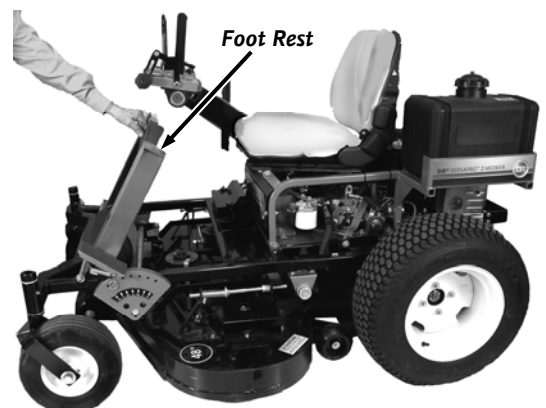

Figure 17
- Grasp the Handle at the rear of the Foot Rest (Figure 17) and lift the Foot Rest to access the top of the Deck.
3. Grasp the Handle at the rear of the Foot Rest (**Figure 17 on page 19**) and lift the Foot Rest to access the top of the Deck.